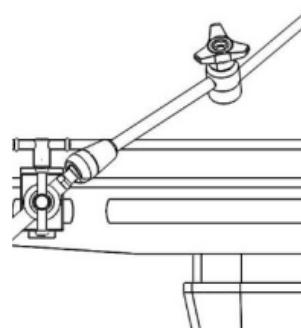

Figure 1
- Loosen the knob of the **Table Clamp**. Attach the table clamp on the opposite side of the operating surgeon, positioned near the patient's arm pit, to the surgical rail over the sterile drape, then tighten the clamp to the rail (Figure 1).